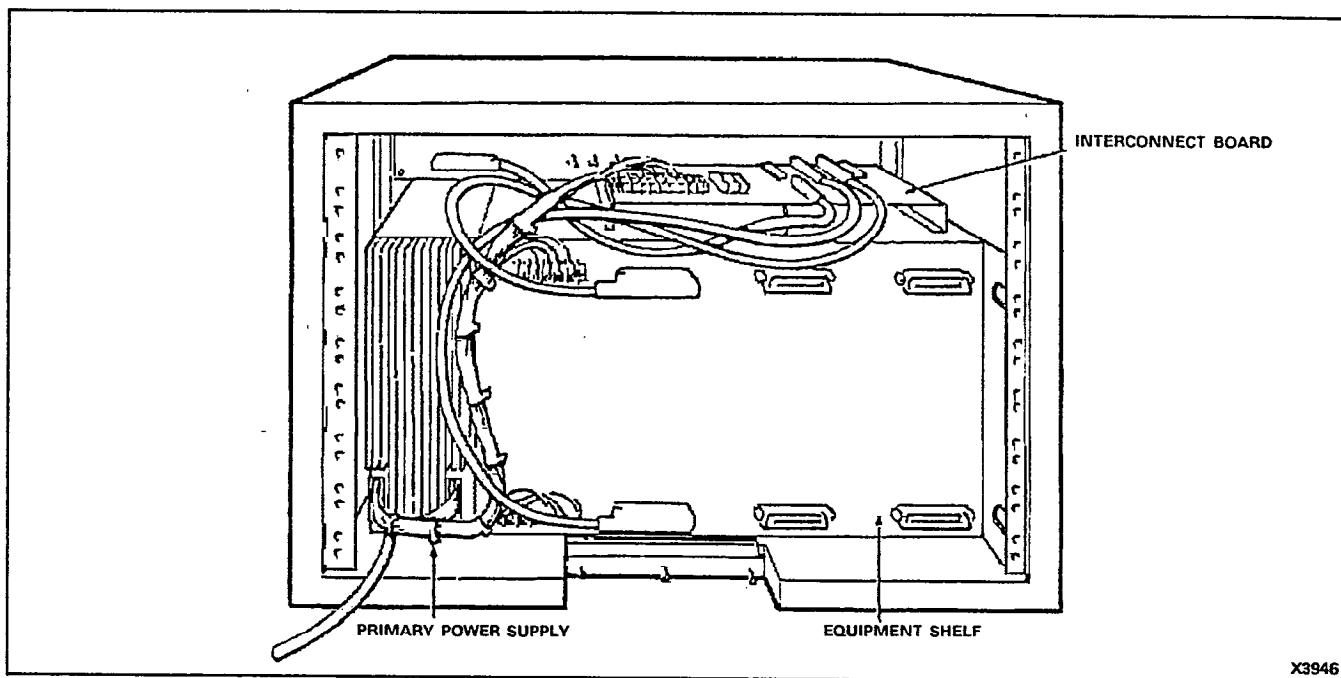

Figure 2-6 SX-100 Primary Power Supply
2.15 The system primary power supply (Figures 2-6 and 2-7), provides all system power from a 115 Vac. In the SX-200 system, optional factory strapping allows for 220 Vac operation. The SX-100 system has a 220 Vac adapter to allow 115 Vac power to the system.